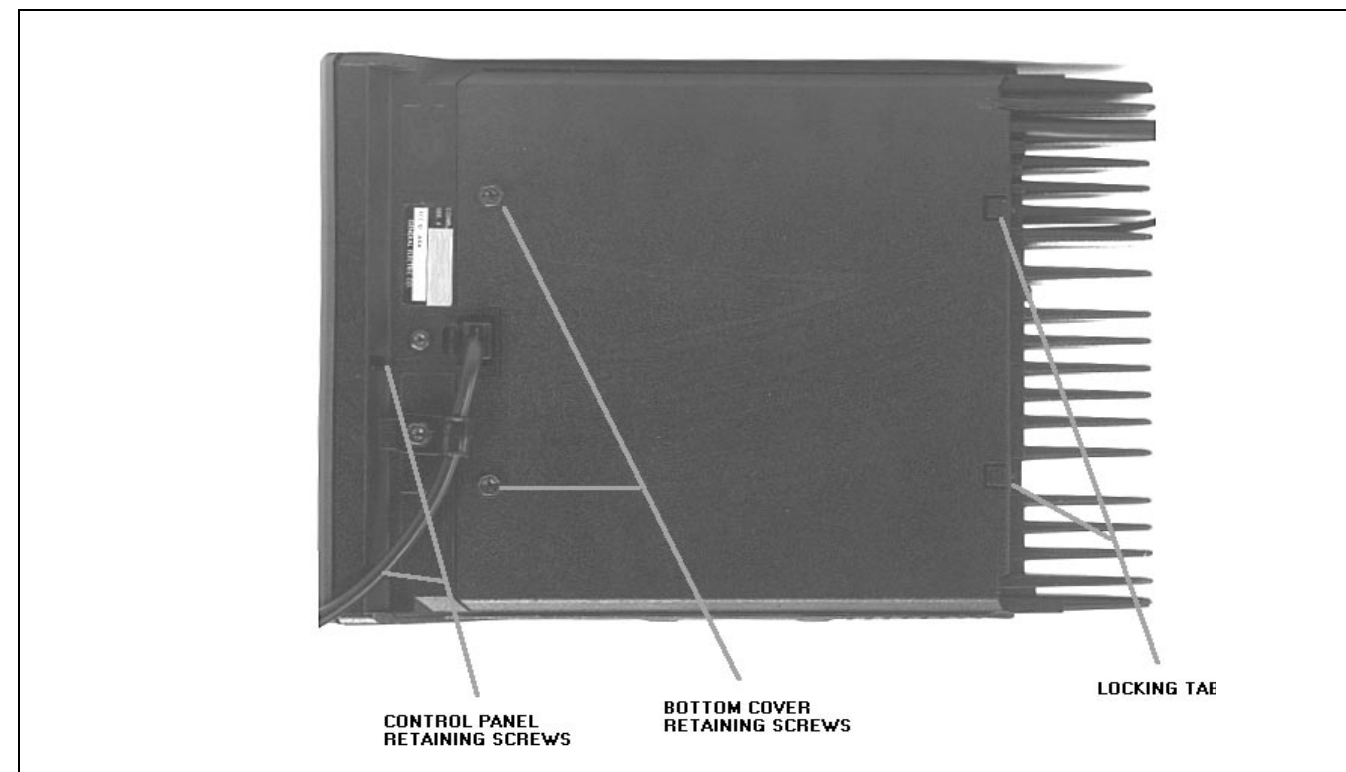

Figure 1 - Removal Of The Top And Bottom Cover
1. Insert a small standard screwdriver under one side of the top cover and gently pry the side of the cover away from the frame releasing the locking tab (refer to Figure 1).
Remove the two screws securing the bottom cover to the radio. One of the screws is used to hold the microphone strain relief (refer to Figure 1). The bottom cover can then be removed from the radio.